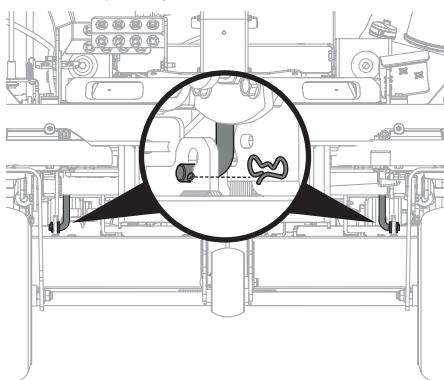

Figure 43
6. Remove the two bow-tie pins from the deck rods that secure the front center lift link brackets on the frame to the front-center lift brackets on the deck and pull the front end of the rods out of place (Figure 43).